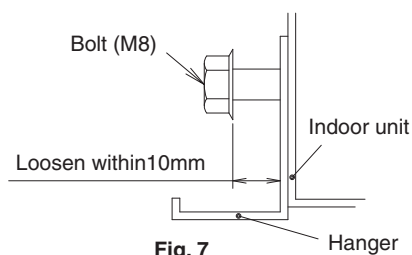

Fig. 7
- Loosen 2 bolts for installing the hanger at both sides (M8) (4 places at left and right) within 10mm. **(Refer to Fig. 7 and 8)**